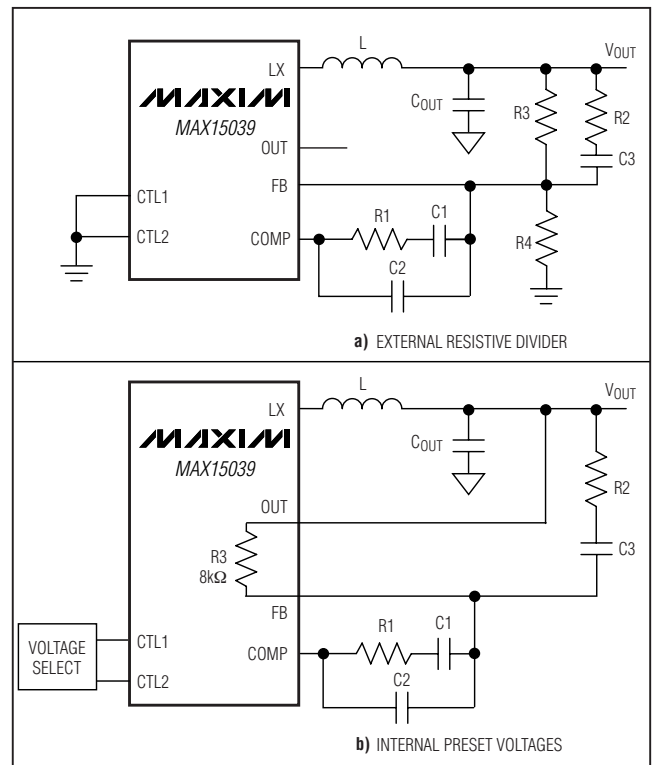

Figure 3. Type III Compensation Network
The high switching frequency range of the MAX15039 allows the use of ceramic output capacitors. Since the ESR of ceramic capacitors is typically very low, the frequency of the associated transfer function zero is higher than the unity-gain crossover frequency,  $f_C$ , and the zero cannot be used to compensate for the double pole created by the output filtering inductor and capacitor. The double pole produces a gain drop of 40dB/decade and a phase shift of  $180^\circ$ . The compensation network error amplifier must compensate for this gain drop and phase shift to achieve a stable high-bandwidth closed-loop system. Therefore, use type III compensation as shown in Figures 3 and 4. Type III compensation possesses three poles and two zeros with the first pole,  $f_{P1\_EA}$ , located at zero frequency (DC). Locations of other poles and zeros of the type III compensation are given by: